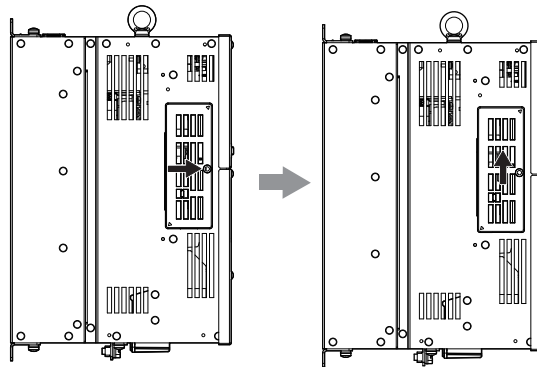

Figure 4.28 Sliding the CN19 Connector Cover
2. Slide the CN19 connector cover from the drive as shown in Figure 4.28.